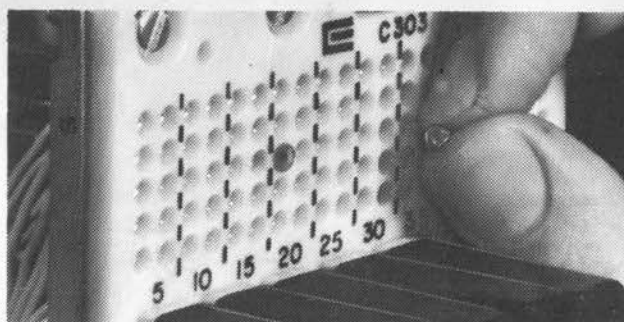

Figure 29
- 10.06 The test point insulator button fits into the recess for the contacts on the test fields. The button may be used to isolate contacts during testing with the Front Tap Shoe or "H" Test Connector. (See figure 29.)